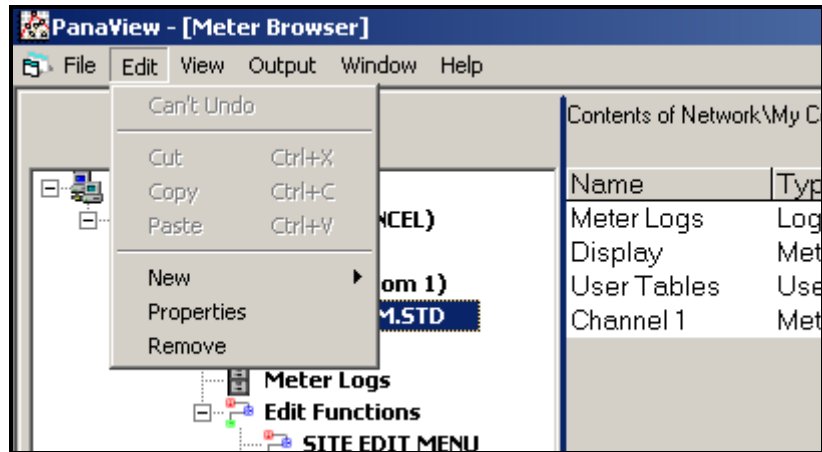

Figure C-15: Properties Option
2. Right-click on the highlighted XGM868i and select the *Properties* option, as shown in Figure C-15 below.